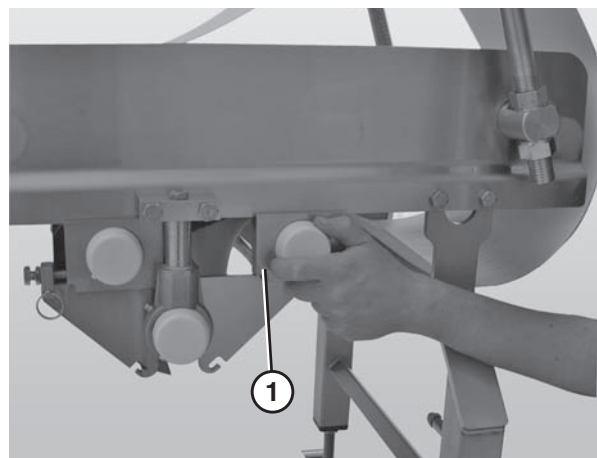

Figure 57
4. Slide the tension spindle assembly (Figure 57, item 1) out of the housing.